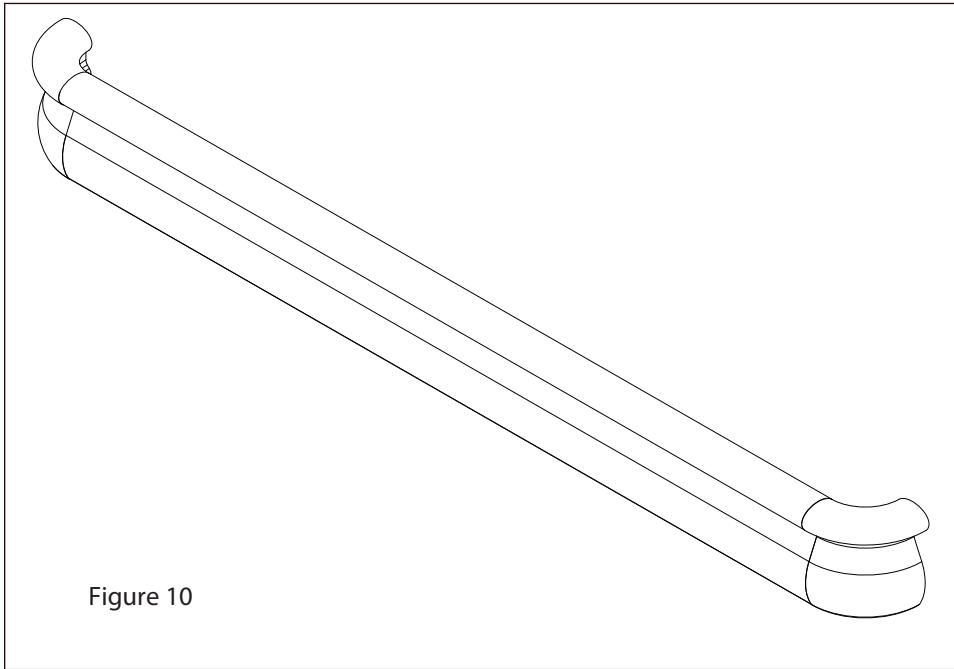

Figure 10
10. Finished installation (see figure 10)